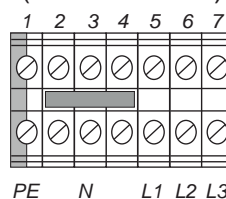

Figure 4-17 AC Input Terminal Block (3-phase)
- 3-phase 208/230/400VAC (Figure 4-17).